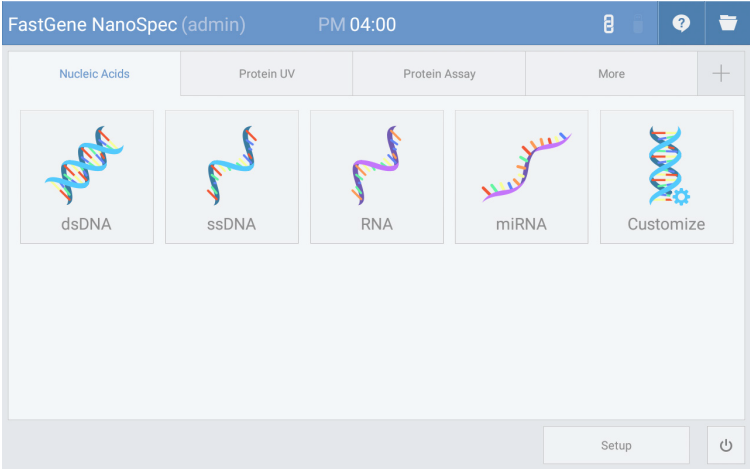

Fig. 1.2
1. [Fig. 1.2] Click the “+” button on the menu screen.